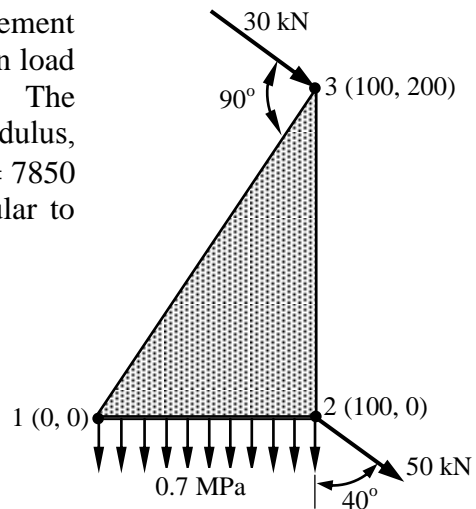

Fig. Q 4A
- 4A. Fig. Q 4A shows a Constant Strain Triangular element subjected to point loads (at nodes 2 and 3), traction load (on edge 1-2) and body force (self-weight). The material of the element is steel with Young's Modulus, $E = 200\text{ GPa}$, Poisson's ratio, $\nu = 0.3$, density, $\rho = 7850\text{ kg}/\text{m}^3$. The thickness of the element (perpendicular to the plane of paper) is $t = 3\text{ mm}$.